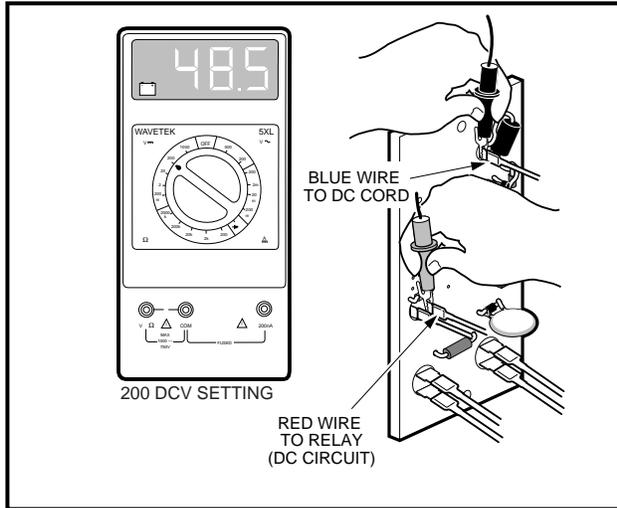

Figure 14-26 DC Circuit Test
1. Place black (-) probe of multimeter on terminal with blue DC cord wire and red (+) probe to terminal with red relay wire (**Figure 14-26, Page 14-27**).